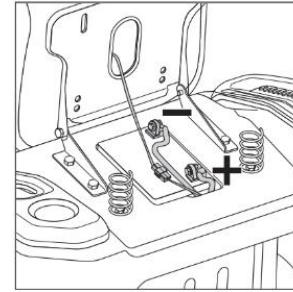

Fig. 7
1. **Connect the positive cable (red cover) first, insert the bolt and tighten the nut (Fig. 7)**
2. **Repeat the process with the negative cable (black) (Fig. 7)**